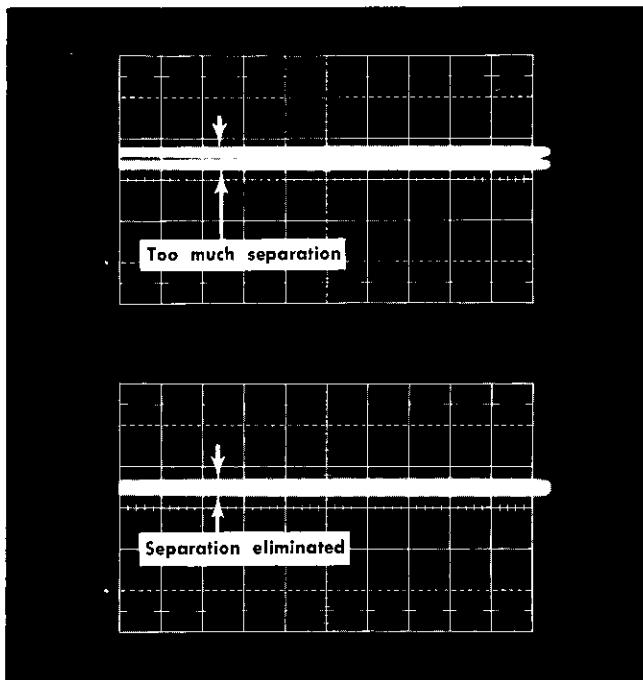

Fig. 5-5. Noise waveform, step 8. Sweep rate 5  $\mu\text{s}/\text{div}$ ; deflection factor 1 mV/div.
h. Decrease the + TRANSITION AMPLITUDE to a point where the dark line between the two traces is just eliminated. Use Fig. 5-5 as a guide. (The desired presentation is obtained when a point is reached where doubt exists as to whether the dark line is or is not eliminated.)